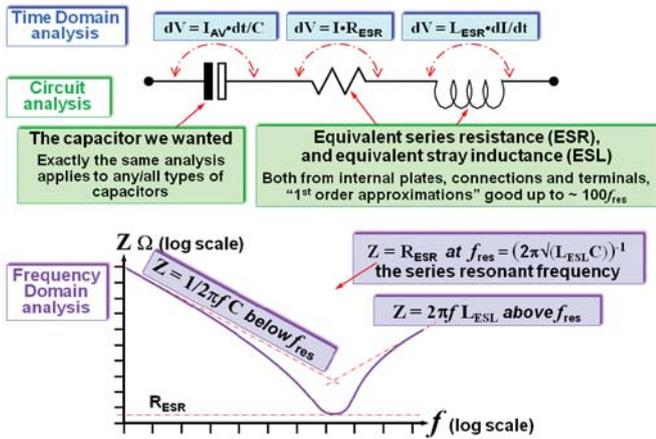
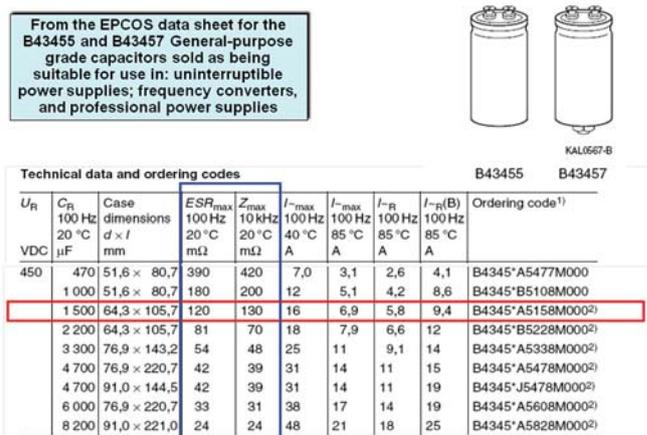
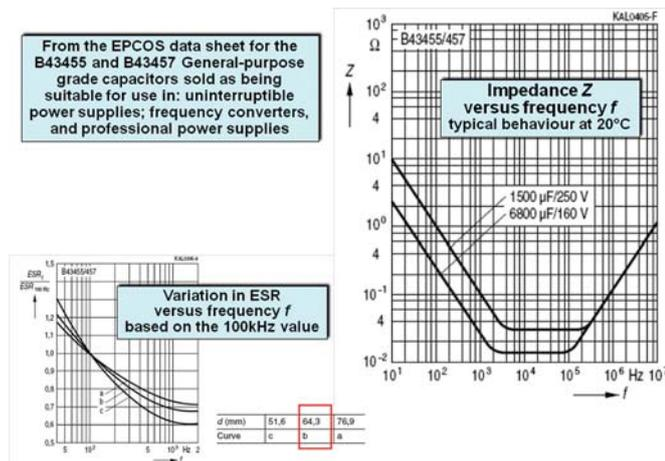

Figure 7.6-5 A 1st-order equivalent circuit showing that real capacitors are complex
Figure 7.6-7 Some data on the EPCOS B43455 capacitor range
Figure 7.6-8 Variation of overall impedance with frequency, for the B43455 capacitor range
But a capacitor is not simply a capacitor! Real components are never ‘pure’ – as simple circuit simulators assume – and Figure 7.6-5 shows a 1st-order approximation of what we actually get when we purchase a capacitor, rather than an idealised capacitor that cannot possibly exist in this universe. This figure is based on an electrolytic capacitor, but exactly the same analysis applies to all non-polarised capacitors too.
The circuit analysis in Figure 7.6-5 shows that the real capacitors that we assemble our products from all suffer from ‘pollution’ caused by their Equivalent Series Resistance (ESR) and Equivalent Series Inductance (ESL). The simplified time-domain and frequency-domain analyses on this figure show what we should expect when we pass switching currents through capacitors.
From Figure 7.6-5 we can see that the overall impedance of a capacitor, Z_{CAP} , is:
Let’s take a practical example of a capacitor that – at the time of writing – is supplied as being suitable for use as the DC-Link in a switch-mode power converter, the EPCOS (TDK) B43455A5158M000: 1,500 μF , 450Vdc, rated 10,000 hours life at 85 $^\circ\text{C}$, aluminium electrolytic with screw terminals, see Figure 7.6-7. Please note that I am not recommending this type of capacitor, it’s just the first one I came to when flicking through a distributor’s catalogue to find an example to use in this article.
Knowing the currents at the fundamental and harmonic frequencies, we *could* calculate the various contributions to the ripple noise voltage across the 1500 μ F capacitor from the three components of the 1st-order approximation equivalent circuit shown in Figure 7.6-5, remembering to take into account their various phase angles. Instead, EPCOS have provided us with a handy graph of overall capacitor impedance (Z) versus frequency, which is copied in Figure 7.6-8. This graph implies an ESR of about 30m Ω , an ESL of about 16nH, and although the series-resonant frequency would be expected to occur around 32kHz, the graph shows that it actually occupies quite a wide range, approximately from 3kHz to 200kHz.
However, the source impedance of the DM ripple noise voltage is the impedance of the DC-Link capacitor at the frequency concerned, which we can see from Figure 7.6-8 is always less than 3 Ω between 100Hz and 30MHz. So we can assume that the noise voltage on the DC-Link capacitor will not be significantly attenuated by the LISN's 50 Ω , and will be what is measured by a receiver or spectrum analyser.
Table 7.6-1 is not precise, and I am particularly worried by the fact that the datasheet lists the 1500 μ F capacitor's Z as being a maximum of 130m Ω at 10kHz (see Figure 7.6-7) whereas the graph provided by the same datasheet (see Figure 7.6-8) shows it as typically being about 30m Ω at 10kHz.
For example, paralleling four 1500μF B43455 capacitors to give us 6,000μF should result in an impedance versus frequency curve that is one-quarter of the 1500μF curve in Figure 7.6-8 over the entire frequency range to 30MHz, whereas the single 6800μF capacitor in that same range only shows an approximately quarter impedance up to 200kHz.
This can be done by making these non-idealities part of the component specifications, so that each time we add a capacitor chosen from the component library we actually import a complex circuit like that shown in Figure 7.6-5. Alternatively we can actually draw the 1st-order approximated circuit for each component and enter the appropriate values for ESR and ESL.